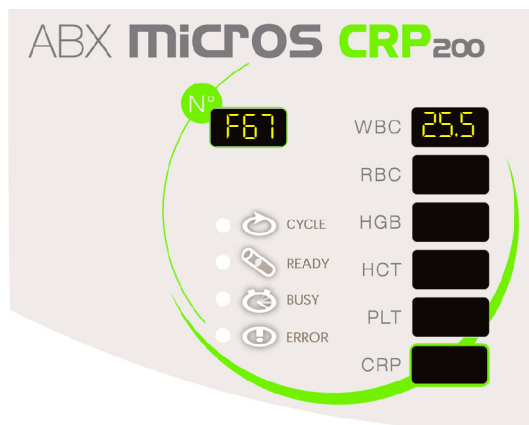

Fig.1: F67 display
- ◆ Enter F[67] function: Temperature calibration (See "Fig.1: F67 display, page 2").